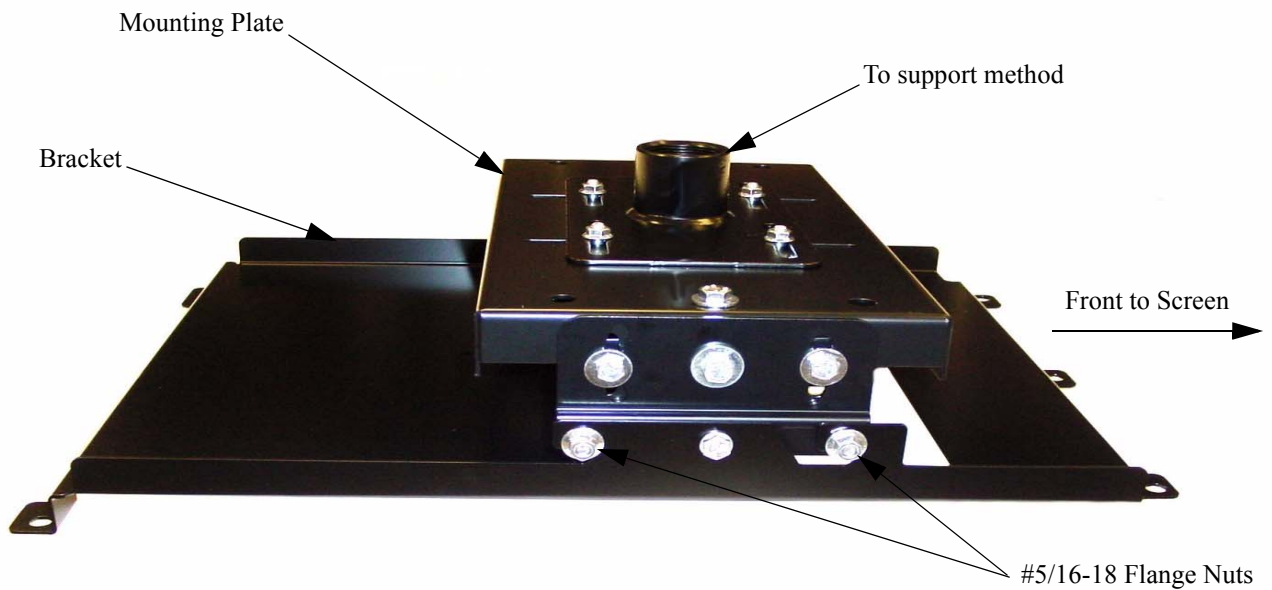

Figure 2. Install Mount
1. Attach the mount to your method of support and tighten firmly so the mount is parallel to the screen (see Figure 2).